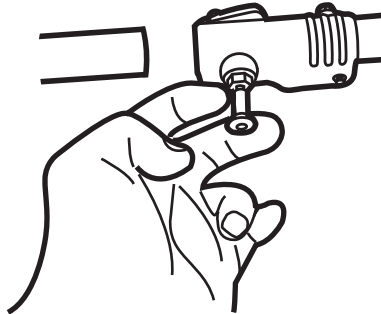

Fig. 9b
2. Pull out the locking pin (A13) and insert the extension (A21) into the clamp (A12). Release the locking pin and ensure it engages in the hole. (See Fig. 9b)